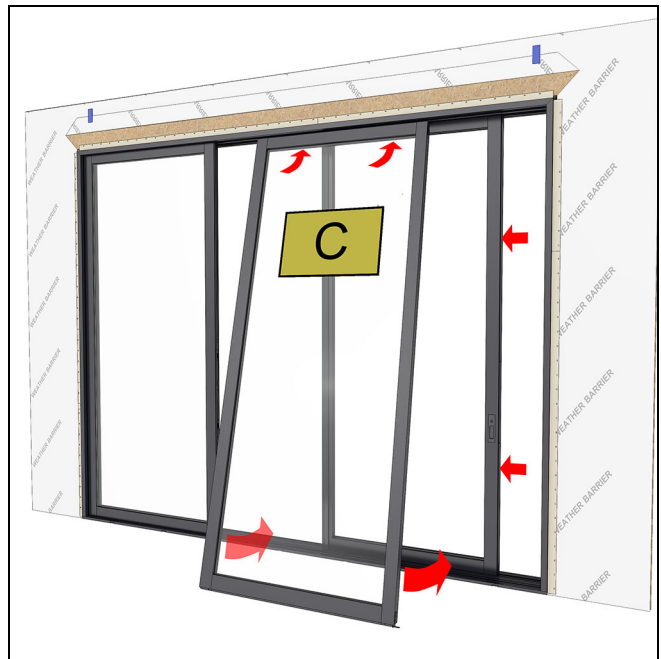

Figure 121 OOX configuration shown.
11. Install the (C) stationary panel, making sure the panel overlaps the operator panel. See Figure 121.